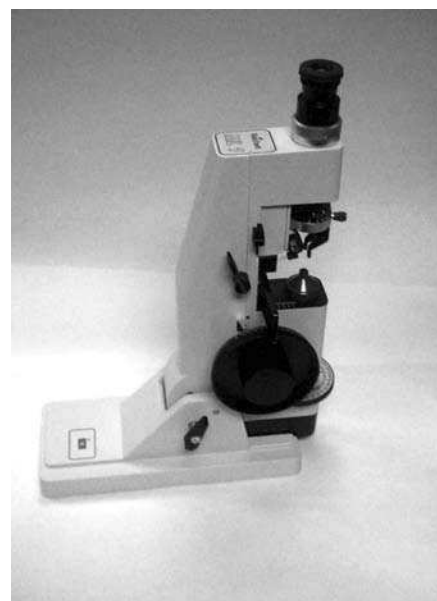

Fig. 14
3. Loosen the tilt lock lever and tilt the instrument to the full upright position. Figure 14 shows the Lensometer in the full upright position with the contact lens stop installed. Tighten the tilt lock lever.